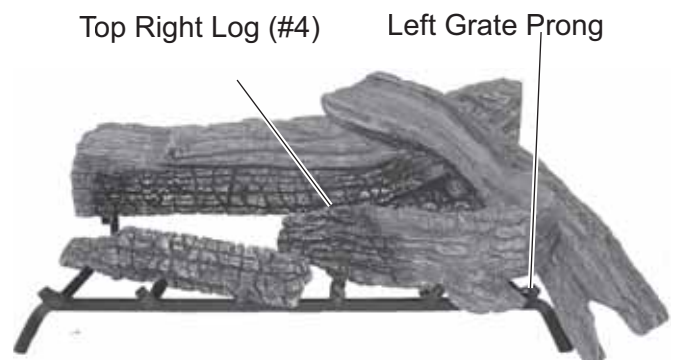

Figure 88 - Resting Top Right Log (#4) on Bottom Left Log
5. Rest right end of Top Right Log #4 on bottom right log. *See Figure 88.*